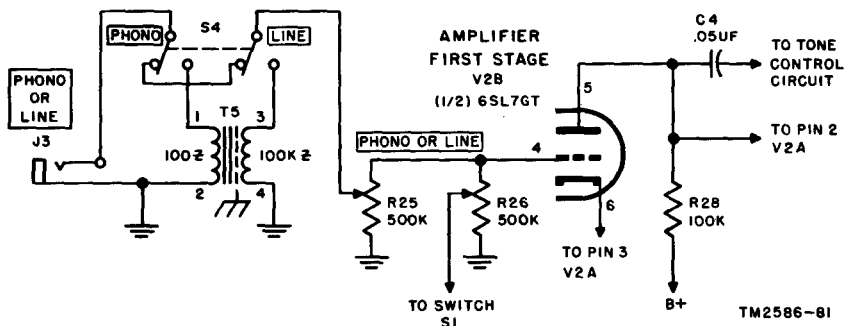

Figure 33. Input circuit for PHONO OR LINE jack.
- (3) *First amplifier.* As the voltage applied to the control grid (pin 1) of VIA changes, the amount of electrons that flow through VIA changes. This change in electron flow in the tube changes the electron flow through the plate circuit, and thus causes a change in the voltage drop across plate load resistor R3. This change in the voltage drop will affect the applied voltage to coupling capacitor C2. Signals applied to capacitor C2 will develop a signal across all or part of potentiometer R4 (MICROPHONE 1). This signal is applied to grid lead resistor R6 and to the control grid (pin 1) of tube V2A. Signals from HI-IMP-MIC-2 and LOW-IMP-MIC-2 are applied through tube V1B, capacitor C3, and potentiometer R5 (MICROPHONE 2). Resistor R18 is the cathode bias resistor for tube V2A and V2B. Capacitor C9 is the cathode bypass capacitor for resistor R18. Resistor R28 is the plate load resistor for tube V2. Changes in voltages on pin 1 of V2A will cause a change in the voltage applied to capacitor C4. For the remainder of this circuit, refer to the tone control circuit (par. 77).
b. The signals applied to the PHONO OR LINE jack J3 (fig. 33) may come from a high-impedance turntable circuit or from a low-impedance line circuit. For impedance matching, the PHONO-LINE switch S4 must be operated to the correct position. When switch S4 is in the PHONO position, a circuit is completed for signals from the turntable pickup through jack J3 to PHONO OR LINE potentiometer R25. When switch S4 is in the LINE position, a circuit is connected from a low-impedance line circuit through connector J3 to the primary (1-2 winding) of transformer T5. Voltage induced from the primary to the secondary (34 winding) of transformer T5 are extended to potentiometer R25. Signals developed on potentiometer R25 are applied to the control grid (pin 4) of the tube V2B. For further information, refer to e below.